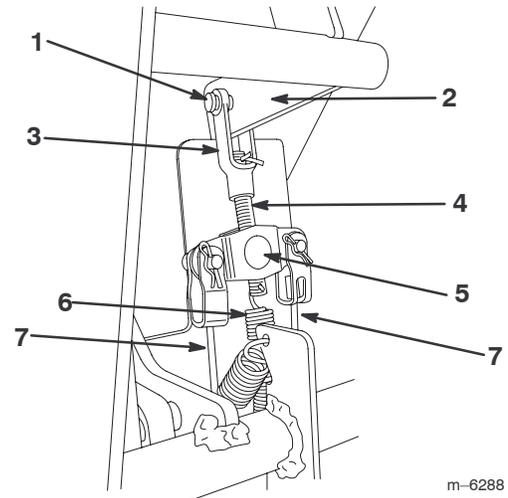

Figure 35
2. Check the brake cables at the brake equalizer (located under the dash) and determine approximately how far up the brake rod the equalizer needs to travel so that there is no slack in the cables (Fig. 35).
3. Remove the hairpin cotter and clevis pins securing the brake rod clevis (Fig. 35).
4. Disconnect the spring from the end of the brake rod (Fig. 35).
6. Thread the brake rod in or out of the brake equalizer as needed to remove the slack from the brake cables (Fig. 35). Do not overtighten the cables.
7. Install the spring into the hole in the brake rod (Fig. 35).
8. Connect the clevis on the brake rod to the brake lever using the clevis pin and hairpin cotter removed previously (Fig. 35).